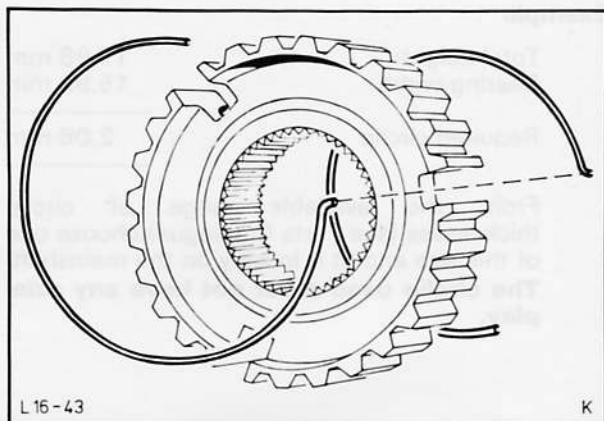

Fig. 37. Fit synchroniser springs
25. Insert 1st gear synchroniser spring in hub, Fig. 37. To do this, first insert blocker bars and then fit the synchroniser springs offset relative to one another, starting with the same blocker bar.